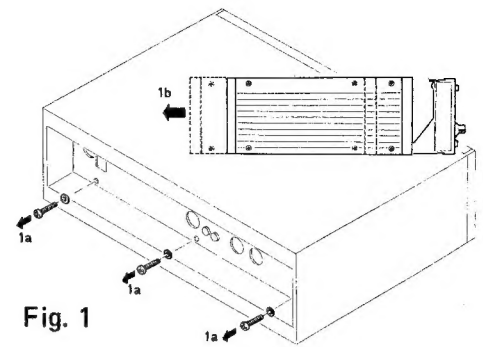

Fig. 1
- a) Remove the three Phillips head screws in the recess in the rear side of the unit (Fig. 1).